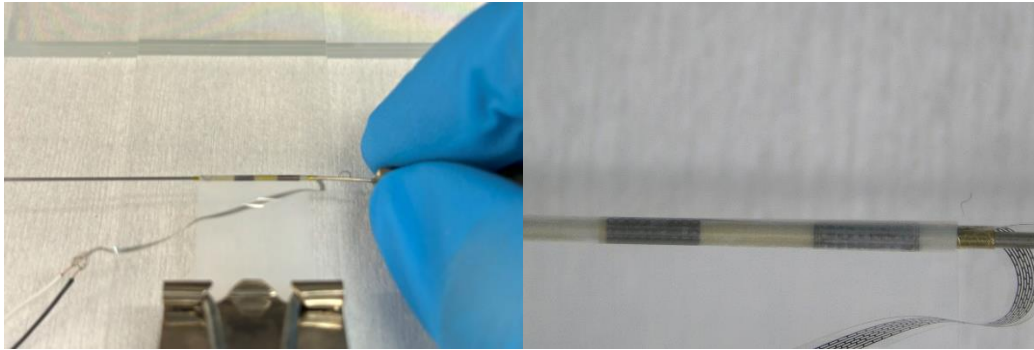

Figure 5-5: Device fully rolled around the thermoforming fixture, with (right) magnified view.
8. Gently lift the mandrel while maintaining tension in the Teflon film and move the Parylene cable around the back of the mandrel and on top of the Teflon film (untangling it, see Figure 5-5)